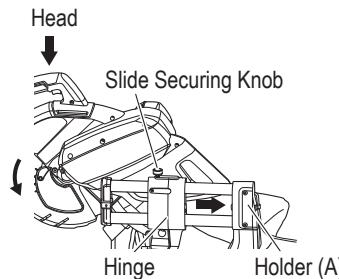

Fig. 49
Down the head and insert the locking pin (see page 13 "6. Releasing the locking pin"). Also screw in the slide securing knob so that the hinge is positioned to hit the holder (A) and secure the head. (Fig. 49)